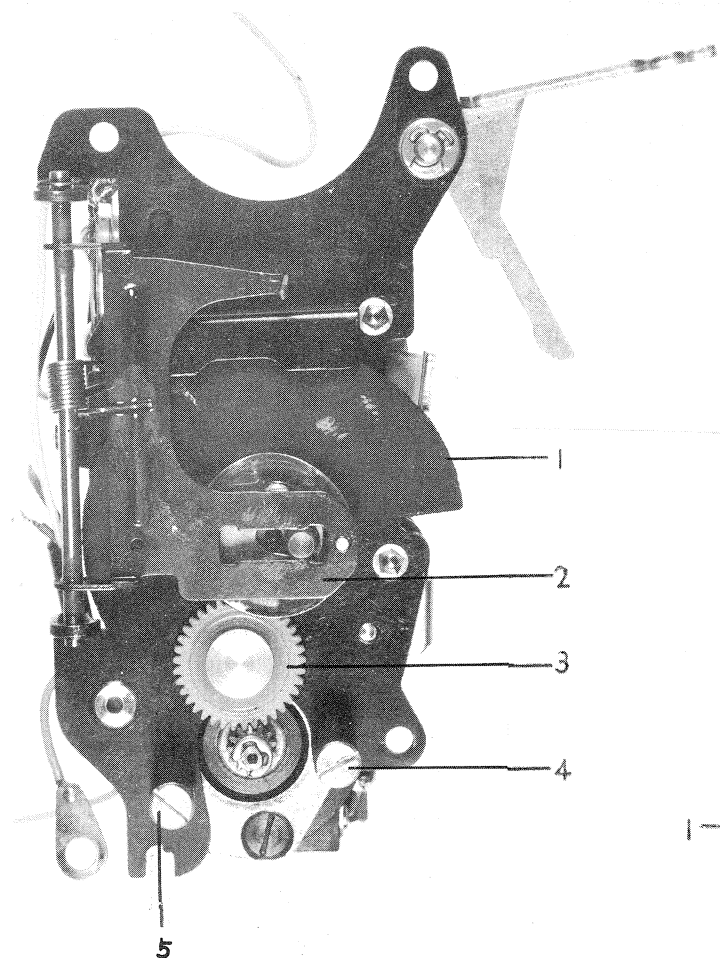

Fig. 18
- b-4. The motor can be removed and replaced as a continuation of operation b-3. The motor mounting screws (4 and 5 in Fig. 18), appear protruding from the lower end of the frame when the rear cover is removed.
- b-1. Inspect, adjust, remove, and replace the sending claw and shutter (1 & 2 in Fig. 18).
- b-2. Inspect, adjust, remove, and replace the shutter intermediate gear and take-up intermediate gear (3, in Fig. 18).